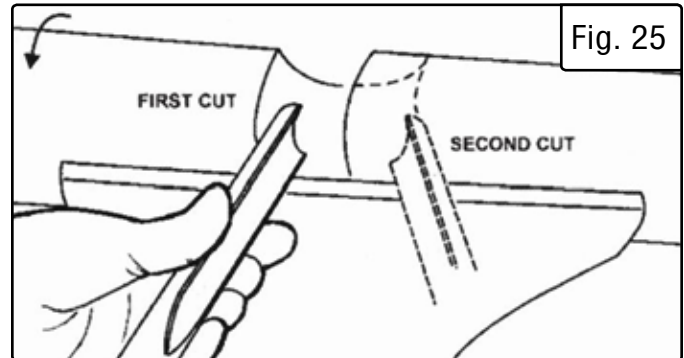

Fig. 25
**COVES** (Fig. 25) - Use a spindle gouge to create a cove. With the flute of the tool at 90 degrees to the workpiece, touch the point of the tool to the workpiece and roll in towards the bottom of the cove. Stop at the bottom, as attempting to go up the opposite side may cause the tool to catch. Move the tool over the desired width of the cove. With the flute facing the opposite direction, repeat the step for the other side of the cove. Stop at the bottom of the cut.